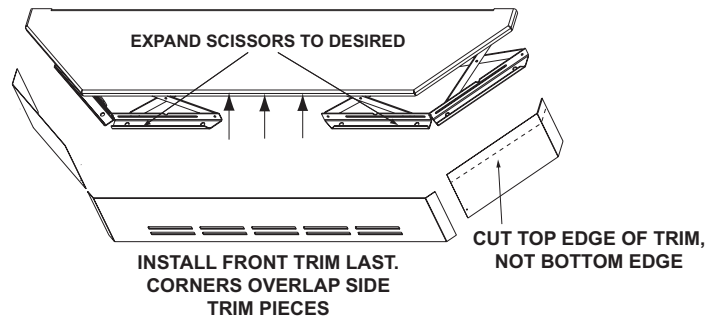

Figure 16B
2. Expand scissors to desired height. Tighten screws to hold in place using Phillips Head screwdriver. **See Figure 16B.**
3. Measure front and side trims to required height to cover scissors and mark pieces for cutting. Cut excess material from top of trim's edge, not bottom. This edge will be sharp; wear gloves to prevent injury to your hands. **See Figure 16B.**